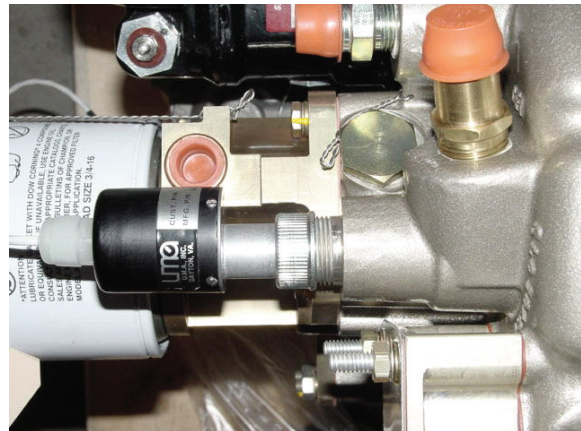

Figure 8-14 Installed Tachometer Sensor
3. Screw tach sensor onto threaded driver port, ensuring that the adapter tang on the sensor aligns with the slotted keyway in the drive port (Figure 8-14).